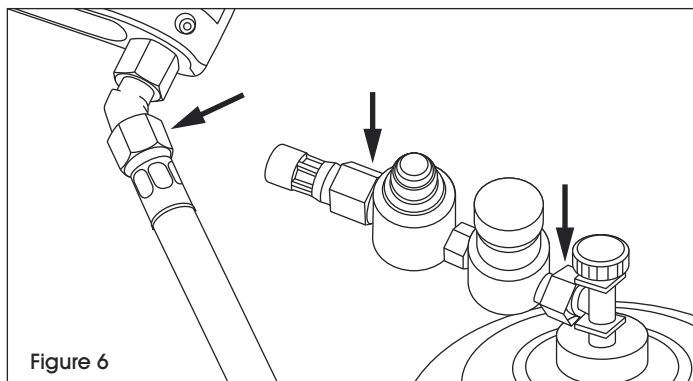

Figure 6
6. Spray soapy water on all three connections to check that there are no leaks in the parts that have been screwed together. If bubbles emerge seconds after, use wrench to securely tighten the connections again. (See Figure 6)